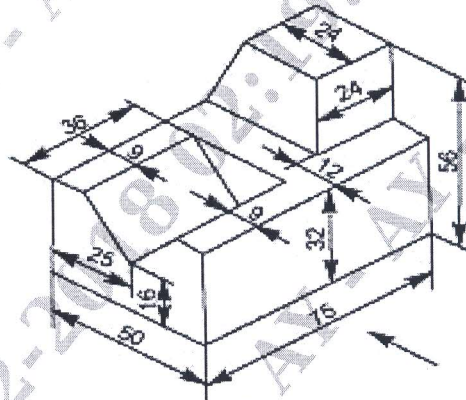

Fig. 1
- Q.No.2** Draw the following views for the given machine component shown in fig. 1.